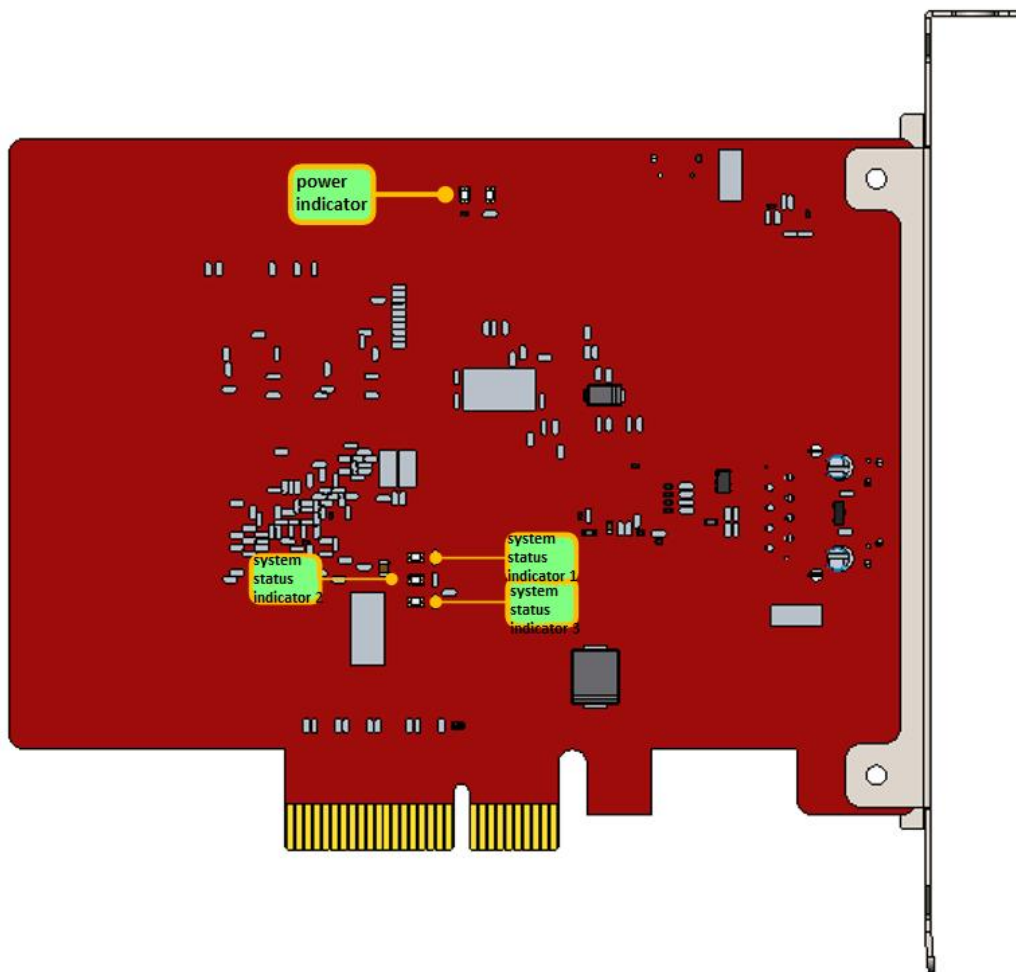

Figure 14 BMC2282 Indicators
1. Check the status of the indicators on BMC2282. The positions of the power indicator and system status indicator are shown in Figure 14